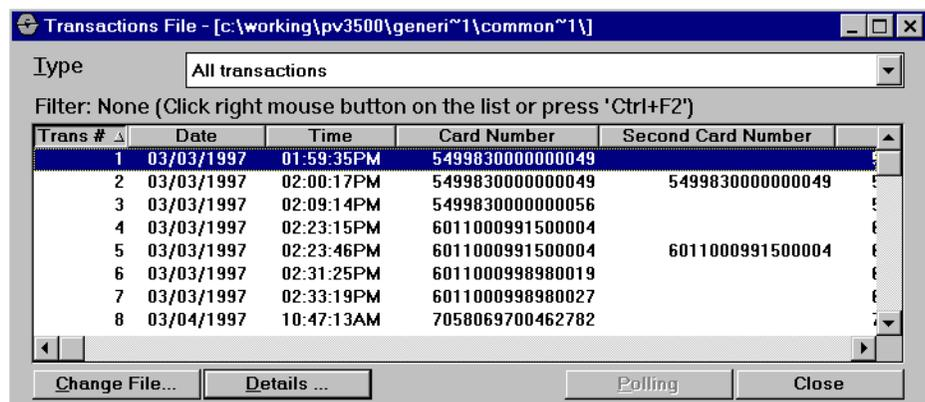

Figure 50: Transaction File Detail Window
2. Double-click the file where transactions are stored (default is "transact.dbf"), or select a file and click **Ok**. Either opens the Transactions File list box (*Figure 50*).